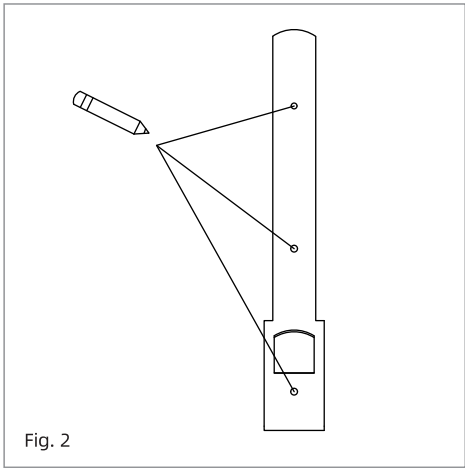

Fig. 2
2. Figure out where to mount the water heater unit, mark 3 mounting holes on the wall according to the mounting bracket or mounting template for the water heater (Fig. 2).
5. Use a screwdriver to unscrew the four screws on the right, and open the power cord cover. (Fig. 2)